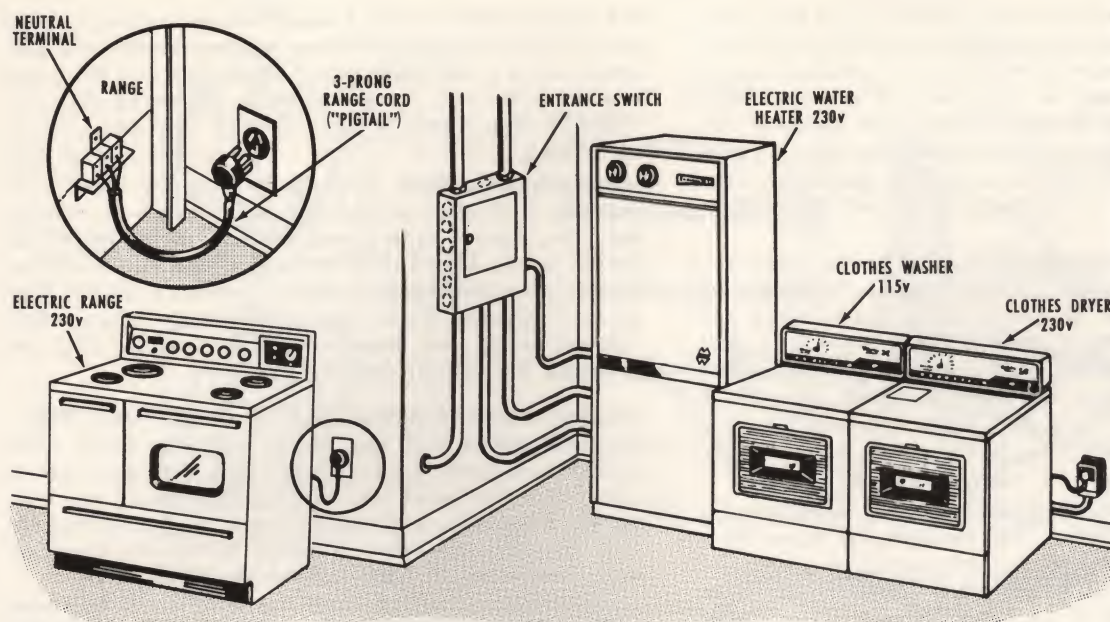
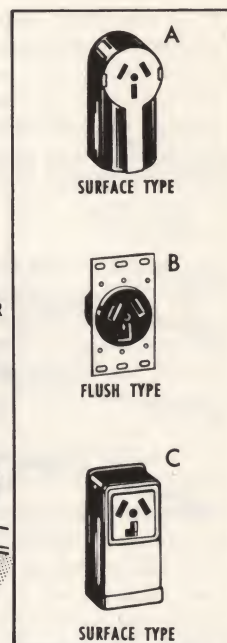

FIG. 101—WIRING TYPICAL 230v VOLT APPLIANCES
FIG. 102—HEAVY APPLIANCE RECEPTACLES
**ELECTRIC RANGES.** Most electric ranges operate on 115-230 volts. (See Page 3 for explanation of voltage differences.) On higher heats, burners or elements are on 230 volts, for lower heats—115 volts. A 3-wire circuit is required; use either a 3-wire cable or 3 wires in conduit. Fig. 101 shows how conduit or cable is run between the fuse box or circuit breaker cabinet and the range receptacle. Use a heavy duty 50 ampere, 250 volt receptacle. Install either a flush-mounted type (Fig. 102-B), or a surface-mounted unit (Fig. 102-A or 102-C) in the wall at the point where range is to be located.
The range is connected to a 250 volt—50 ampere—3-wire pigtail cord (Fig. 101-insert) which plugs into range receptacle. To disconnect range, pull out plug. Ground frame of the range range to the neutral terminal (Fig. 101-insert), making certain that the neutral wire of the pigtail cord runs to this terminal.
**ELECTRIC CLOTHES DRYER.** Wiring for a 230 volt clothes dryer can be 3-wire cable, 3 wires in a conduit, or service entrance cable. Check local utility company requirements. Usually No. 10 or heavier wire is used, depending upon wattage of dryer. As in the case of water heaters, a circuit disconnect (pull-out cartridge fuse block, circuit-breaker or a separate disconnect switch) must be provided. The dryer frame must be grounded. Fig. 101 shows installation of a pigtail dryer cord which is similar in appearance to the heavier range cord. Installation for a high-speed dryer is about the same as for an electric range, as described above. (See Fig. 101-insert)